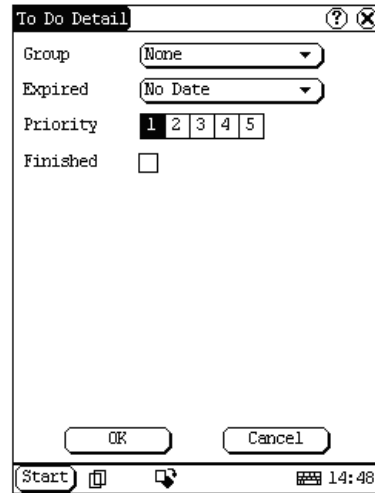

Figure 4-28
- 3) Click [Detail] button to open the To Do Detail interface. See Figure 4-28.